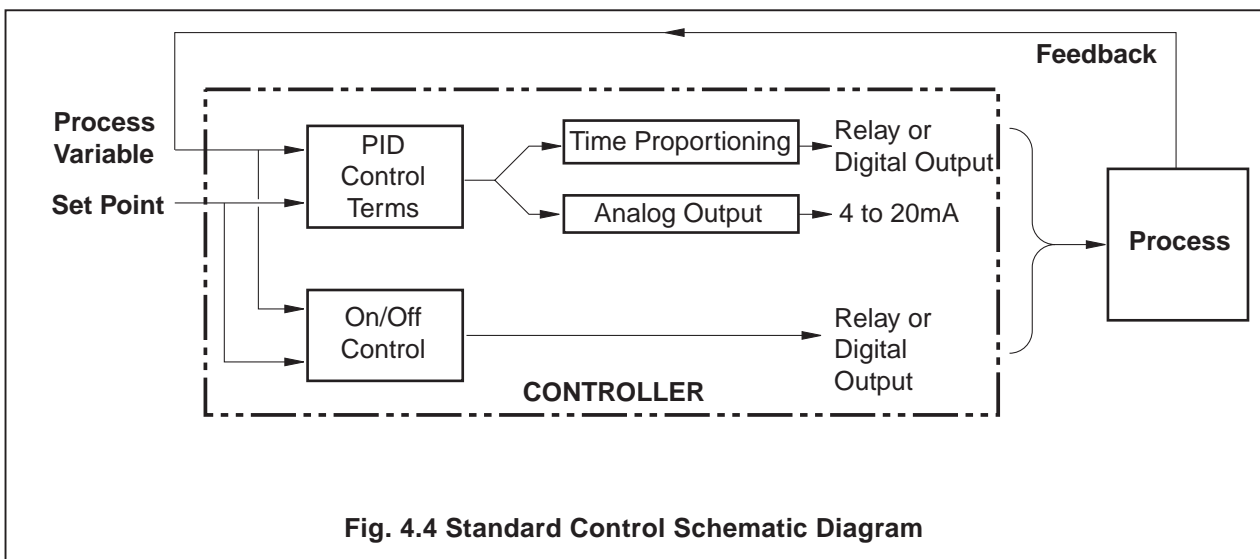

Fig. 4.4 Standard Control Schematic Diagram
- C-PROP* – current proportioning – see Fig. 4.4.
- t-PROP* – time proportioning – see Fig. 4.4.